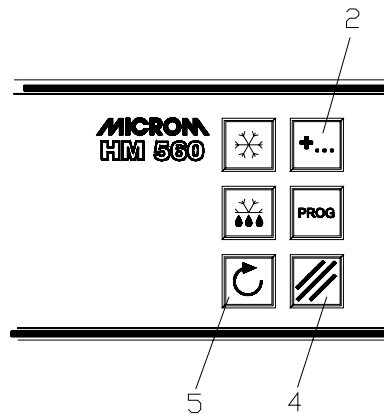
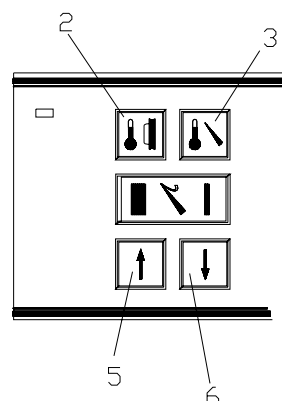

Fig. 47b
Fig. 47d
- Press button (fig. 47b.2) once.
- To change the instrument's real time at intervals of one minute, press the UP or DOWN button (fig. 47d.5 or 47d.6).
- Press button (fig. 47b.2) three times.
- To change the WAKE time at intervals of 15 minutes, press the UP or DOWN button (fig. 47d.5 or 47d.6).
- Press button (fig. 47b.2) four times.
- To change the ACTIVE time at intervals of 1-hour-steps (1 to 9 h), press the UP or DOWN button (fig. 47d.5 or 47d.6).
- Press button (fig. 47b.2) twice.
- To change the instrument's defrosting time at intervals of 15 minutes, press the UP or DOWN button (fig. 47d.5 or 47d.6).
- **Immediate defrosting** can be carried out at any time by pressing the RESET button (fig. 47b.4) and additionally the button (fig. 47d.2) (specimen temperature).
- For this, press button (fig. 47d.3) (knife temperature) together with the RESET button (fig. 47b.4).